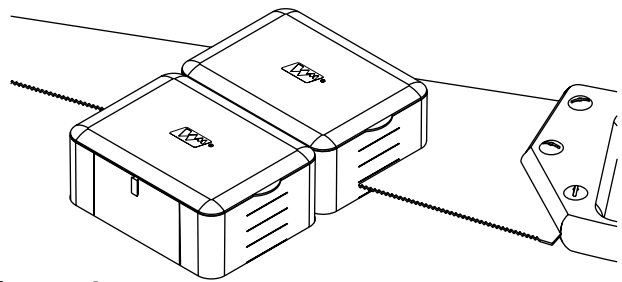

Figure 4
9. After concrete has cured, saw off the remainder of the box(es) at floor level using a wood saw and remove the box spacer. If the final floor covering is a thicker than 5/16" [7.9mm], leave enough of the box protruding above the floor to compensate (see Figure 4).